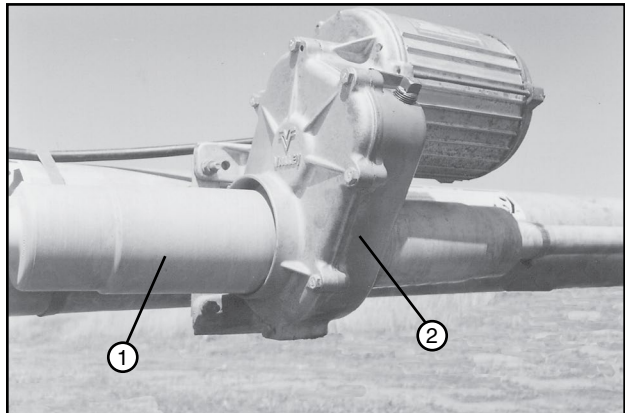

Figure 64-1 1. U-Joint Shield 2. Gearbox
7. Slide the U-joint shield over the U-joint and position approximately 1/4 in away from touching the gearbox. Secure the U-joint shield to the drive shaft shield with a clamp. See figure 64-1.